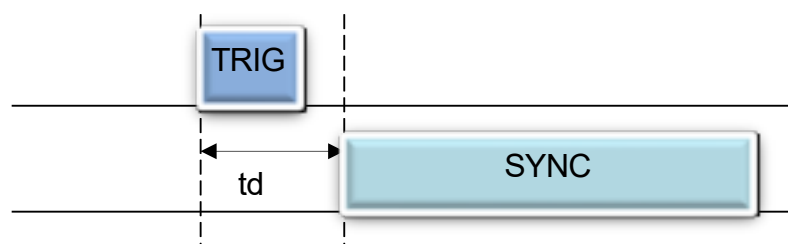

FIGURE 5.7: SYNC MODES
2. Linked with the measurement process. Activated with a preset delay after the start of the measurement and deactivated at the end of the measurement— see Figure 5.7.